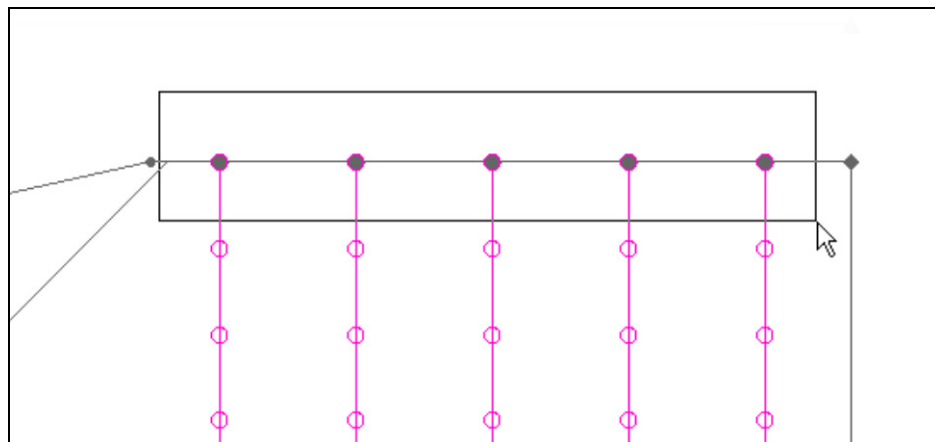

Figure 6 Selecting the top reinforcement nodes by dragging a box
2. Select all the top nodes by dragging a box around them as shown in Figure 6 below.